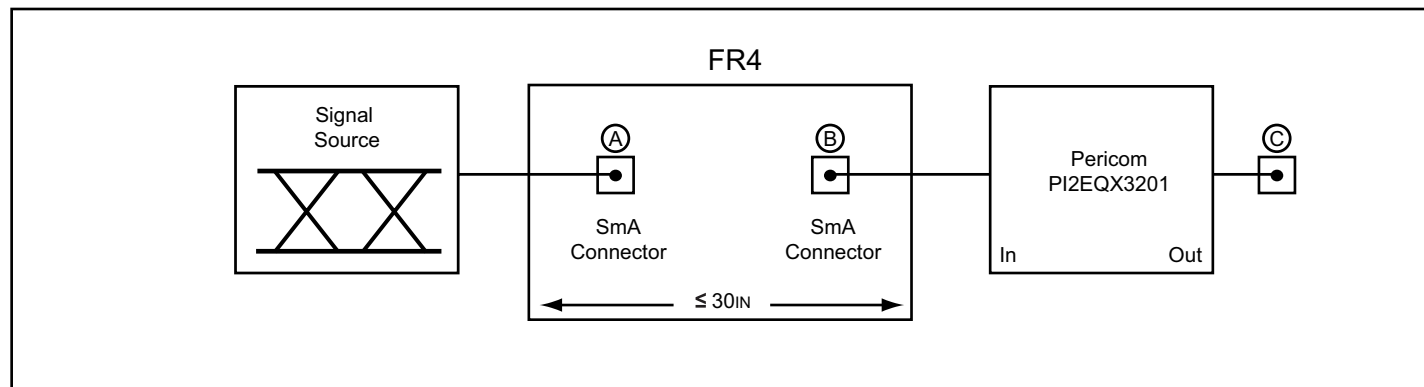

Figure 1. Test Condition Referenced in the Electrical Characteristic Table
1. K28.7 pattern is applied differentially at point A as shown in Figure 1.
2. Total jitter does not include the signal source jitter. Total jitter (TJ) = $(14.1 \times RJ + DJ)$ where RJ is random RMS jitter and DJ is maximum deterministic jitter. Signal source is a K28.5 \pm pattern (00 1111 1010 11 0000 0101) for the deterministic jitter test and K28.7 (0011111000) or equivalent for random jitter test. Residual jitter is that which remains after equalizing media-induced losses of the environment of Figure 1 or its equivalent. The deterministic jitter at point B must be from media-induced loss, and not from clock source modulation. Jitter is measured at 0V at point C of Figure 1.